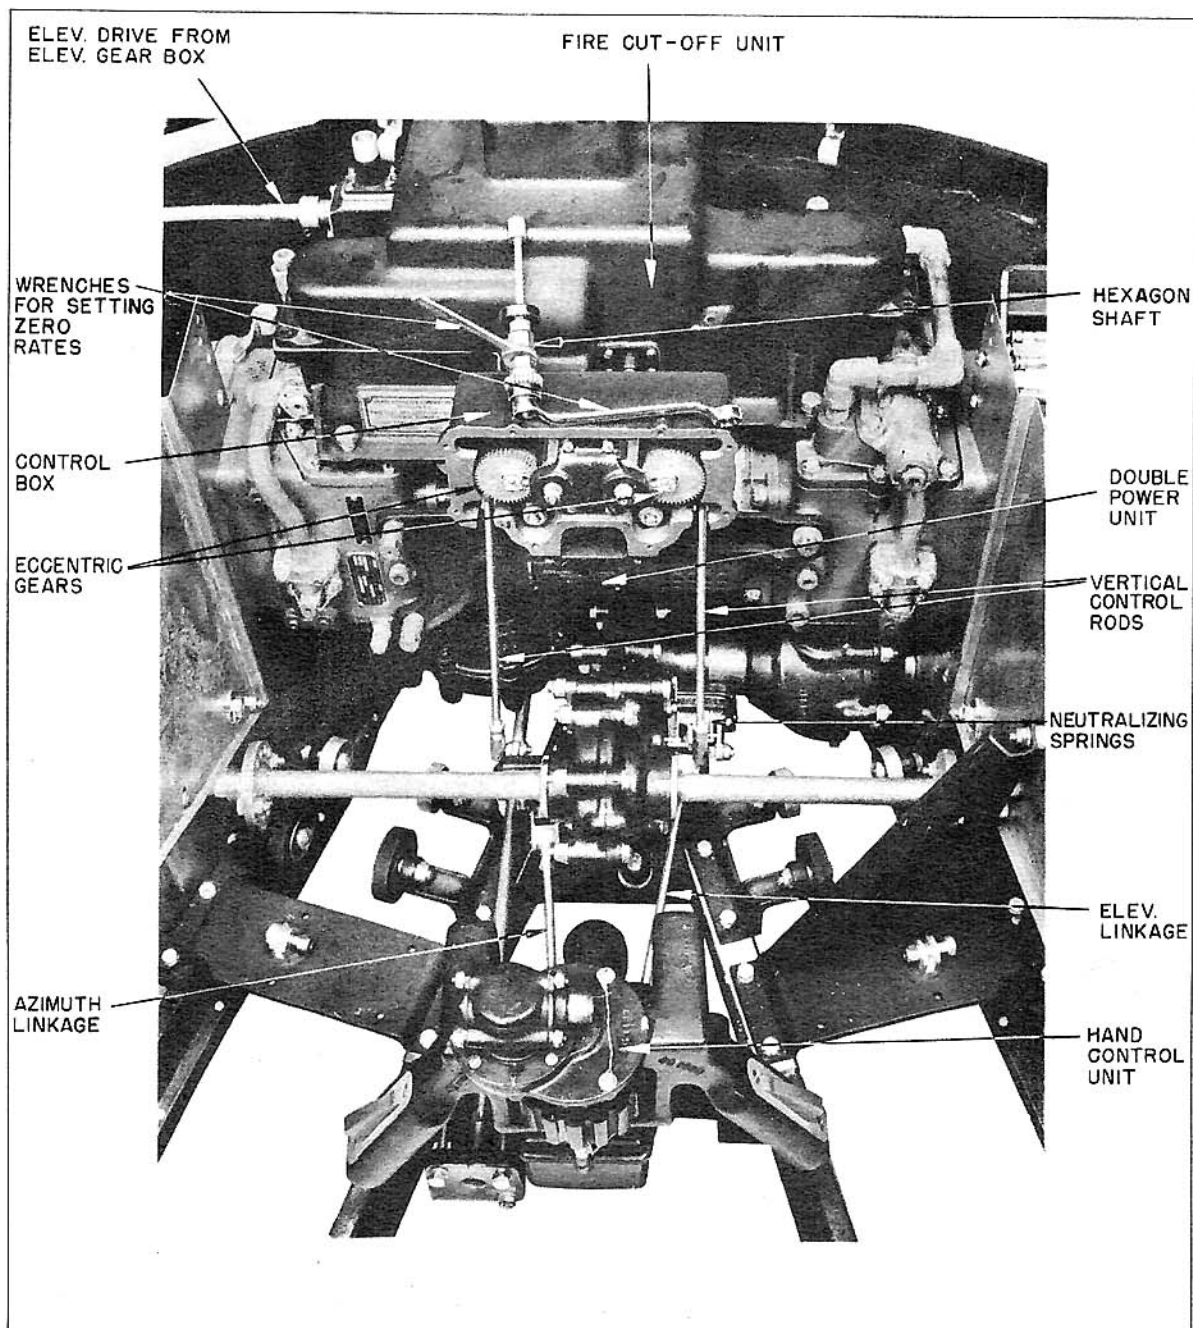

FIGURE 4
(1) General. - (a) To set the zero rates on the azimuth and elevation variable speed transmissions of the double power unit, the following instructions should be used. (See Figure 4.)
3. Loosen locknuts on front ends of pinion shafts in control box and set both eccentric gears so that their slots are horizontal. (See method and tool in Figure 4.)